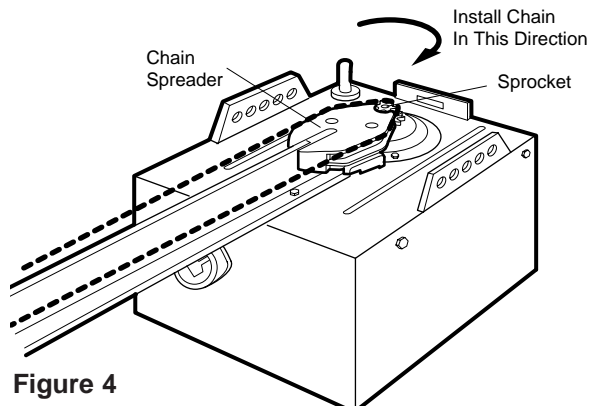

Figure 4
- Continue dispensing the chain forward to the trolley (Figure 4). Reconnect the trolley to the trolley threaded shaft. Proceed to Assembly Step 3 for chain tightening instructions.